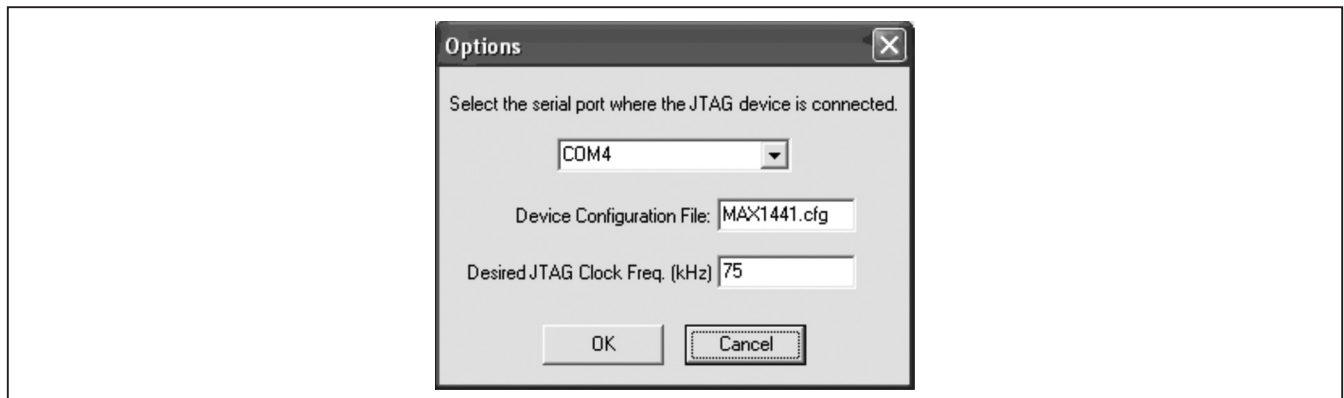

Figure 2. MAX-IDE Device Options Window
- 4) Select the **Options** menu item under **Device** in the menu bar (see Figure 2).